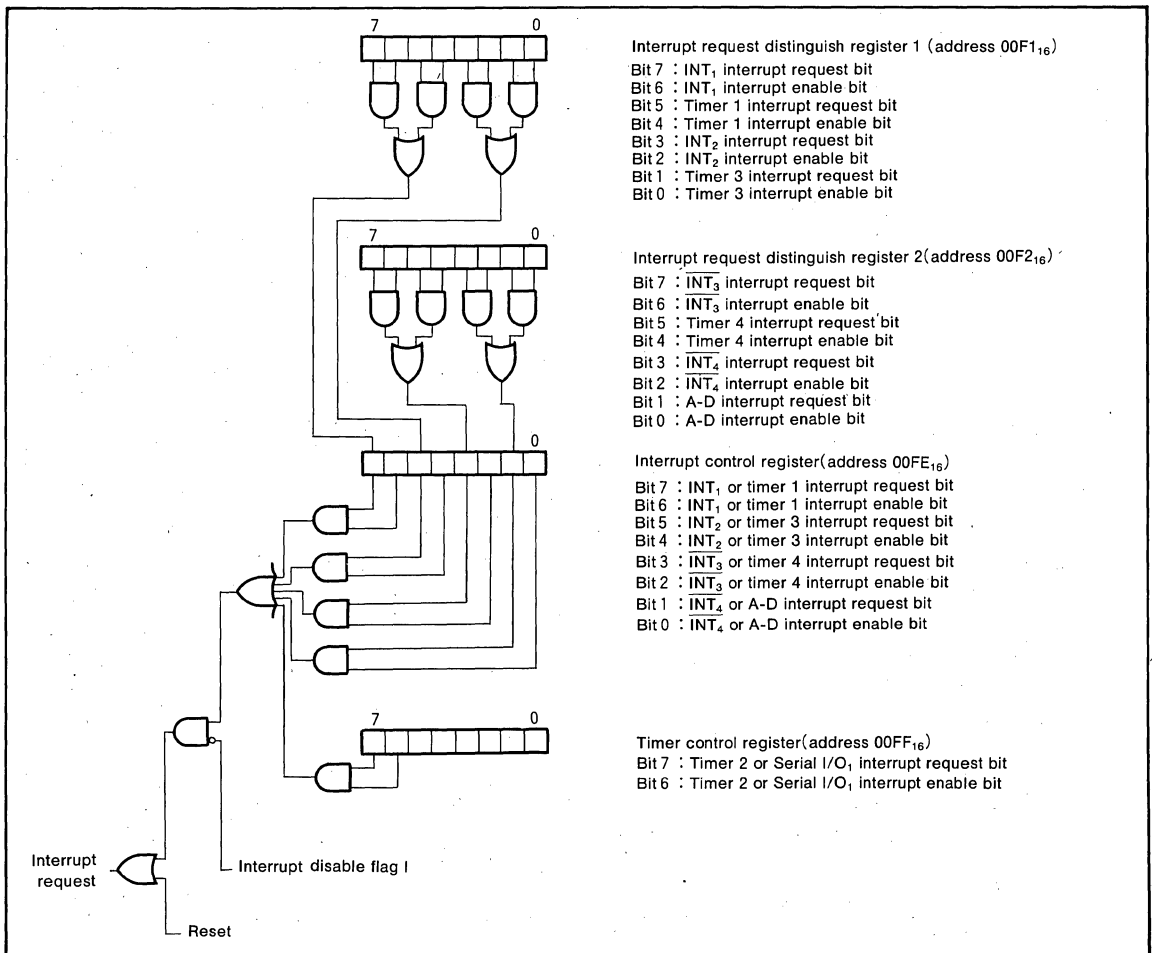

Fig. 3 Interrupt control
These interrupts are vectored and their priorities are shown in Table 1. Reset is included in this table since it has the same function as an interrupt. When an interrupt is accepted, the contents of certain registers are pushed into specified locations, as discussed in the stack pointer section, and the interrupt disable flag (I) is set, and the program jumps to the address specified by the interrupt vector, and the interrupt request bit is cleared automatically. The reset interrupt is the highest priority interrupt and can never be inhibited. Except for the reset interrupt, all interrupts are inhibited when the interrupt disable flag is set to "1". All of the other interrupts can further be controlled individually via the interrupt control register shown in Figure 3. An interrupt is accepted when the interrupt enable bit and the interrupt request bit are both "1" and the interrupt disable flag is "0". The interrupt request bits are set when the following conditions occur: